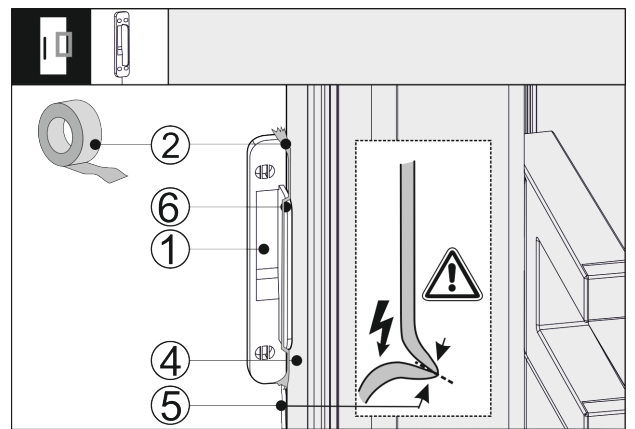

Fig. 41
- Place the knocking sensor Fig. 41 (1) on the side on the appliance door Fig. 41 (4) so that the limit stop Fig. 41 (6) is touching the appliance door Fig. 41 (4). The sensor cable Fig. 41 (5) is tensioned slightly and is also touching the appliance door Fig. 41 (4).
- Attach the knocking sensor Fig. 41 (1) with adhesive tape Fig. 41 (2). The knocking sensor is screwed to the unit front at a later point.